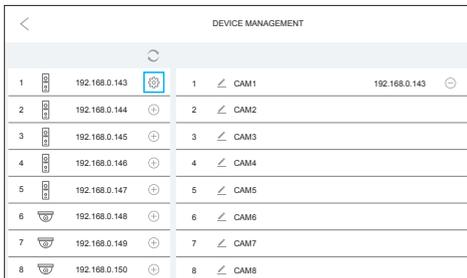
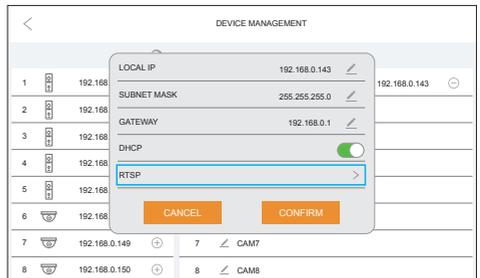

Figure 16
Figure 17
Step 1: While in the "DEVICE MANAGEMENT" mode, select the icon shown in Figure 16 , to enter the interface as Figure 17.
Step 2: In the interface shown in Figure 17, select RTSP in the setting list to enter the setting interface as shown in Figures 17, 18 and 19.